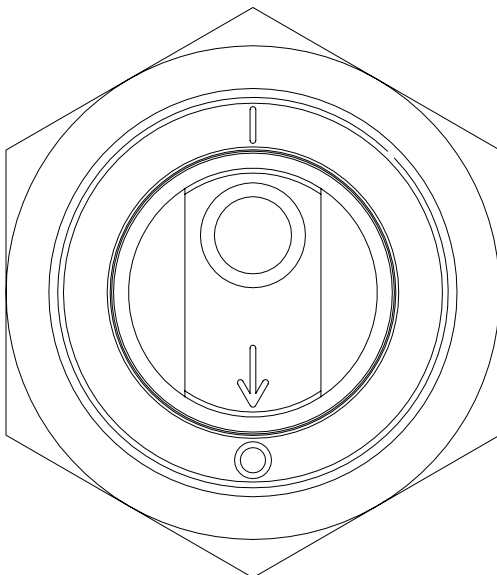

Figure 2
3. Rotate the centre shaft through 180° to the position shown in Figure 2. A 5/8" (16mm) spanner can be used on the shaft flats if required.
4. Rotate the centre shaft through 180° to the position shown in Figure 2. A 5/8" (16mm) spanner can be used on the shaft flats if required.
11. Rotate the centre shaft through 180° to the position shown in Figure 2.